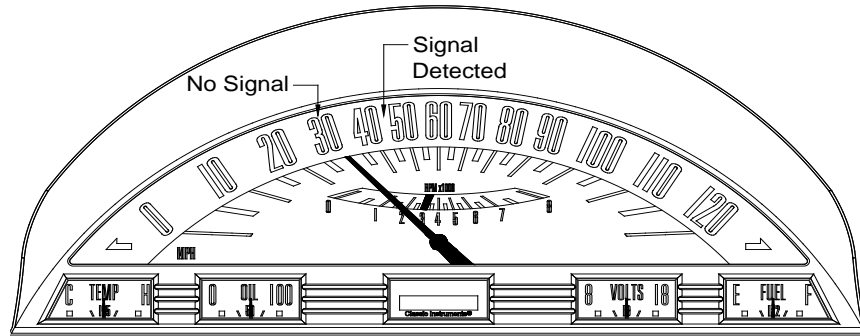

FIG. 7
- 1) Tap the pushbutton until the tachometer points to 3000 RPM (speed auto calibrate option). **Fig. 7**